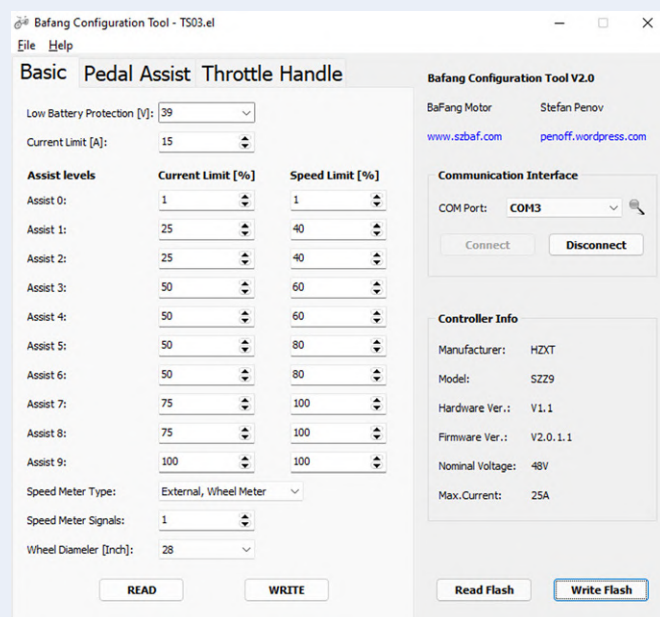

Figure 12: The lower size window with the Basic tab selected, showing my parameter settings.
When you launch the Bafang Configuration Tool, the window shown in **Figure 12** is displayed. If you now disconnect the display from the motor, you can insert the green plug of the USB/TTL adapter into the green socket (leading to the motor) and supply power to the motor via the switch on the battery. The LED on the adapter should light up. After selecting the right virtual port on the right under *Communication Interface*, you can click *Connect* and then click *Read Flash* as the first step. This reads the default configuration of the motor controller. It is advisable to use the File menu to save this with a meaningful name, so you always have a backup if you somehow mess up the parameter settings.
*Current Limit* and *Speed Limit* unless you want start assistance via a thumb throttle, in which case you should enter '1' as shown here. My display supports five levels. Unfortunately the instructions available online do not always agree on which levels should be configured for displays with fewer than nine levels. Levels 1, 3, 5, 7 and 9 are often recommended for a five-level display, but I have also seen 1, 2, 4, 6, 9 and other variants. In my case none of these worked properly, but the values in Figure 12, where each level except the last is duplicated, did work. The current limit percentage settings relate to the *Current Limit* setting, and similarly the speed percentages relate to the maximum speed set on the next tab. With this configuration, at level 3 (corresponding to level 5/6) I ride at up to